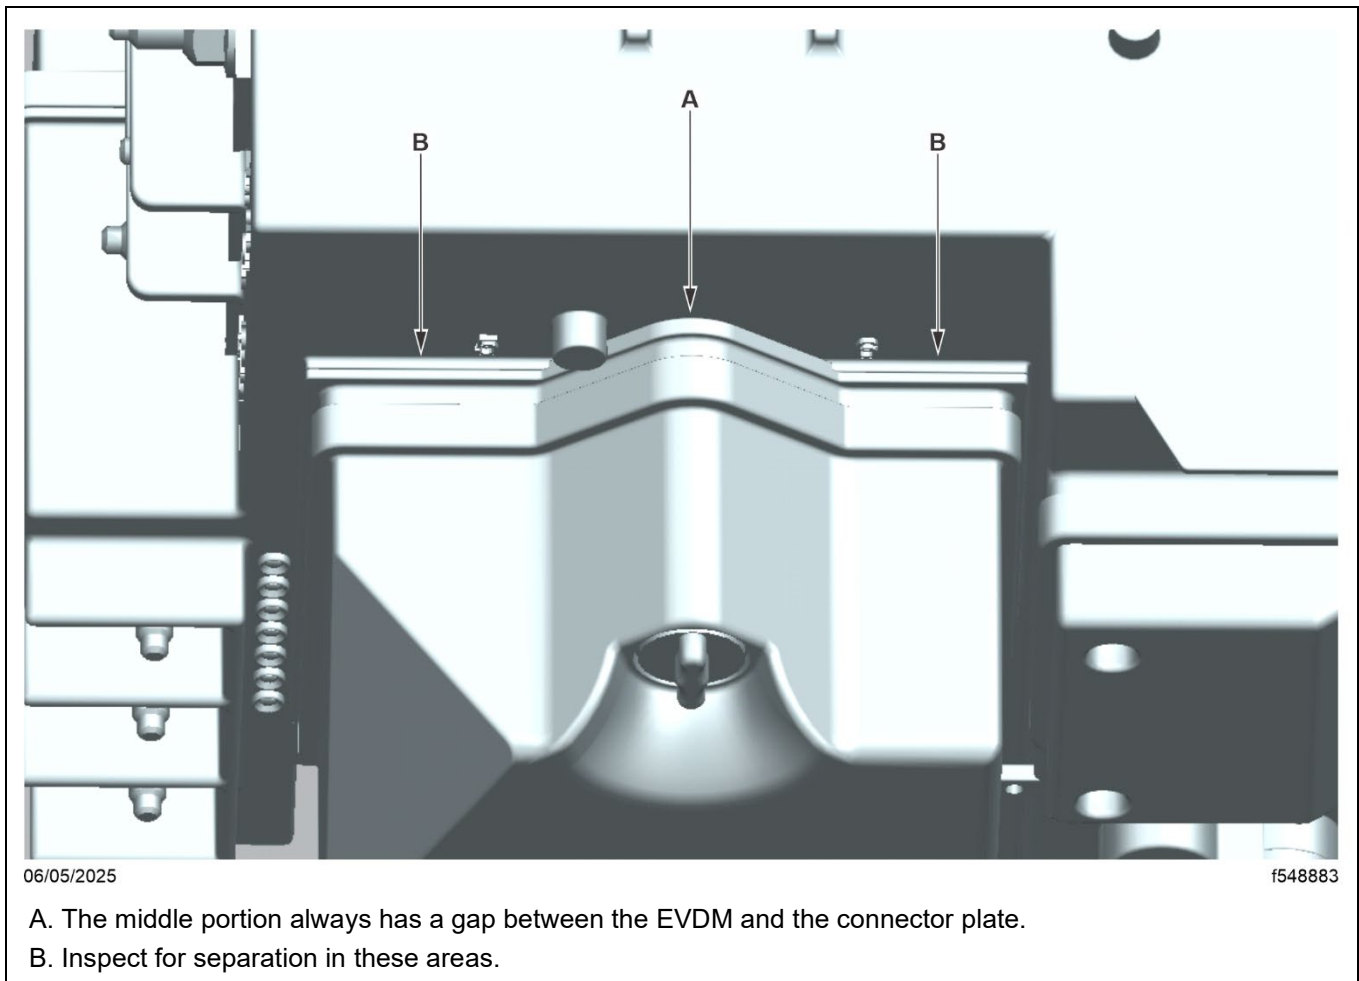
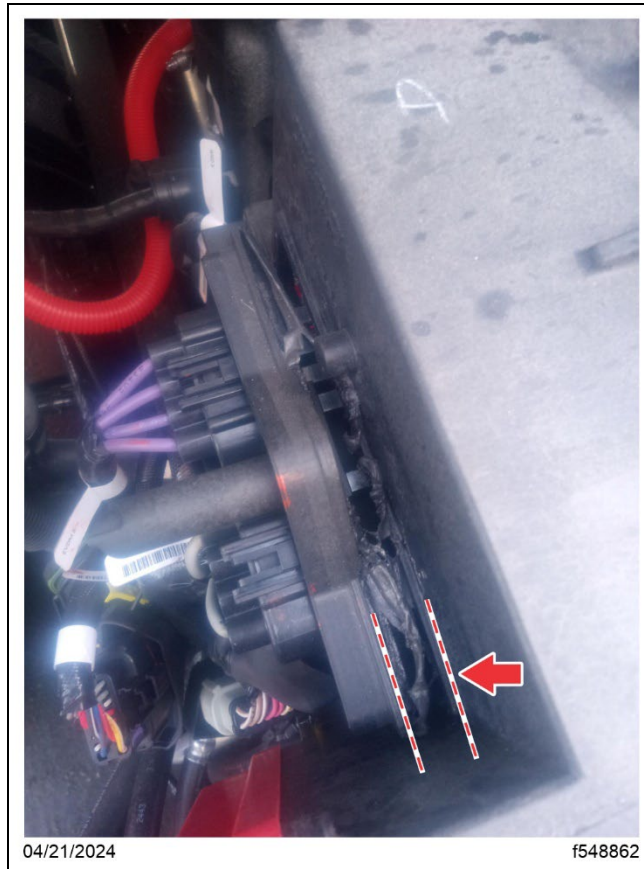

Fig. 3, EVDM Connector Plate Inspection Locations
Fig. 4, Connector Plate Pulling Away from the EVDM
REVISION: On page 9, an important note has been added to record the EVDM's serial number in the recall claim story. On page 10, Figure 3 ("EVDM Connector Plate Inspection Locations") has been included to clarify the inspection areas
7. Inspect the EVDM for separation between the connector plate and the EVDM. See **Fig. 3** and **Fig. 4**.